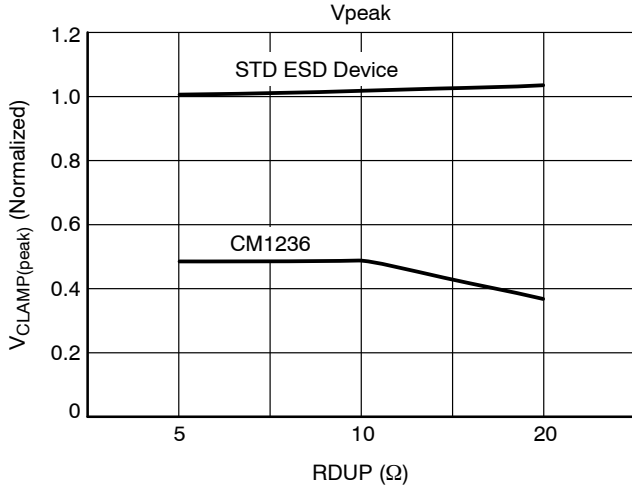
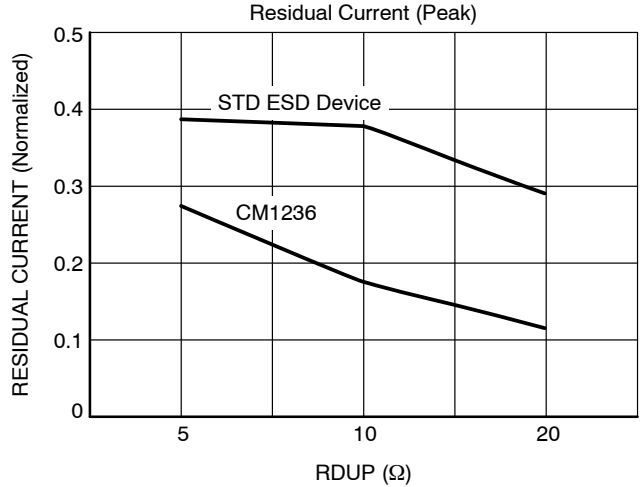
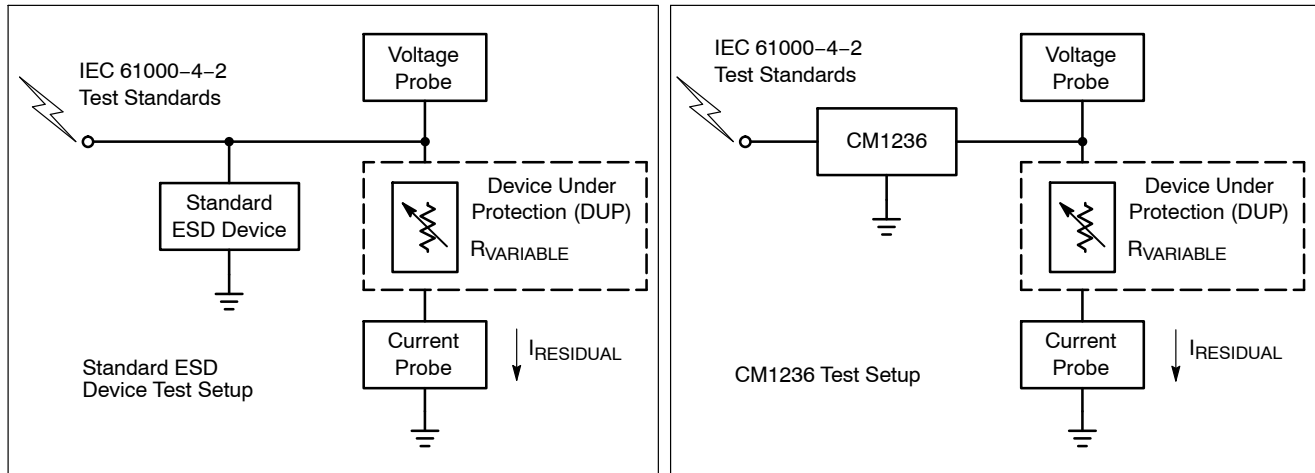

Figure 5. VCLAMP vs. RDUP\* (ASIC) – 8 kV Contract Strike
Figure 6. IRESIDUAL vs. RDUP\* (ASIC) – 8 kV Contract Strike
Figure 7. Test Setups: Standard Device (Left) and CM1236 (Right)
2. Impedance values for deviation from continuous 100  $\Omega$  uncompensated differential microstrip, with typical layout as measured via TDR with 200 ps effective incident risetime. See Figure 7.
Figure 5 shows that the CM1236 (*PicoGuard XS* ESD protector) lowers the peak voltage and clamping voltage by 45% across a wide range of loading conditions in comparison to a standard ESD protection device. Figure 6 also indicates that the DUP/ASIC protected by the CM1236 dissipates less energy than a standard ESD protection device. This data was derived using the test setups shown in Figure 7.
\*RDUP is the emulated Dynamic Resistance (load) of the Device Under Protection (DUP). See Figure 7.